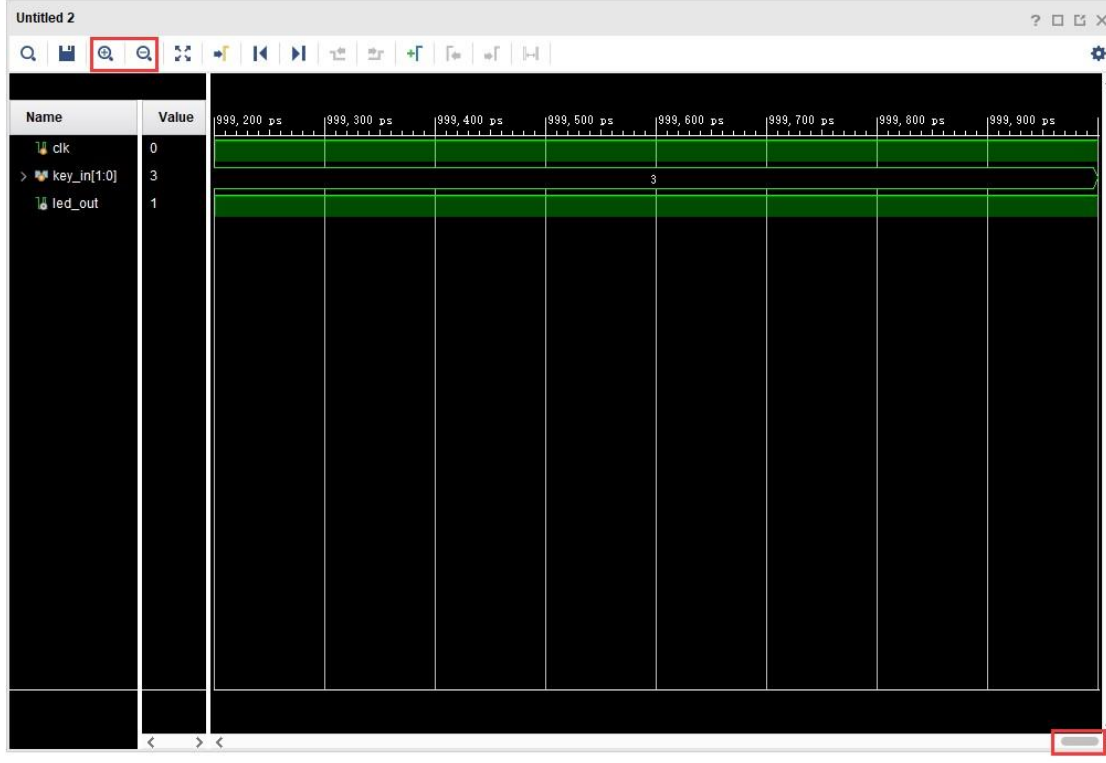
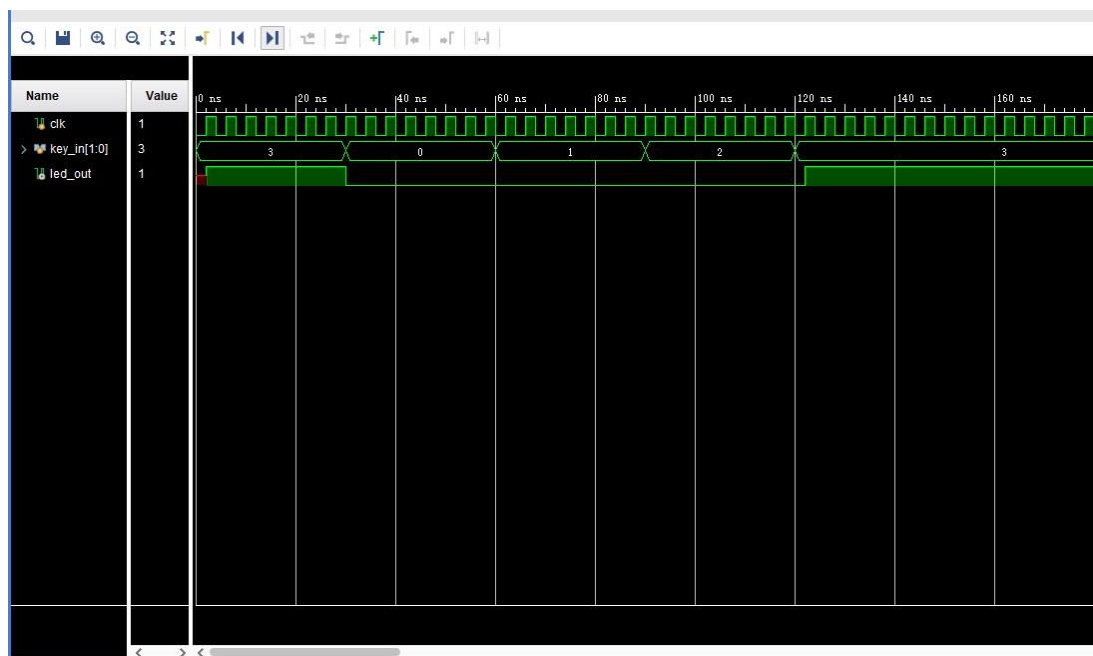

Figure 11.
Figure 12.
1. Drag the bar to the left and use these tools to zoom in or zoom out to see the appropriate image, as shown in figure 11 and figure 12.